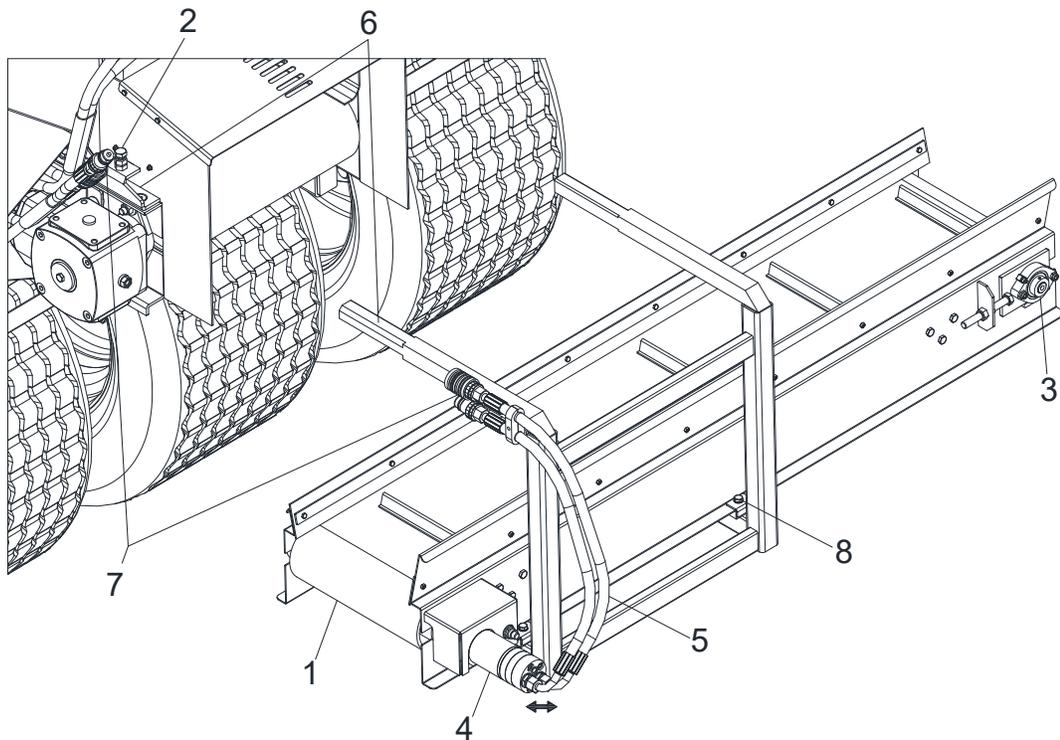
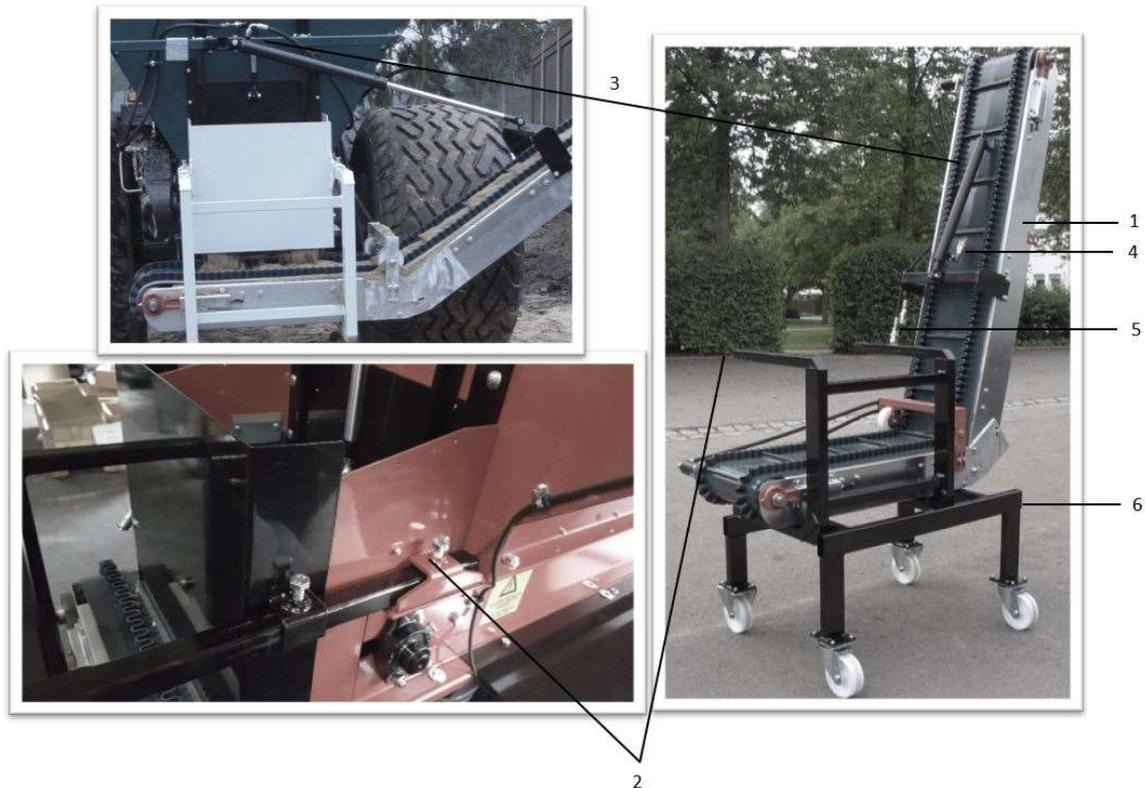

Fig. 18 Cross conveyor belt unit
Fig. 19 Lift conveyor belt
The optional cross conveyor belt (Fig. 18/1) is used for lateral spreading of the spreading material. The cross conveyor belt is inserted into the same mounting (Fig. 18/2) as the disc spreading unit and bolted to the support (Fig. 18/6). Either the disc spreading unit or the cross conveyor belt unit can be mounted on the disc spreader.
2. Disconnect the hydraulic plug connections (Fig. 18/7).
3. Loosen the screws of the mounting (Fig. 18/2) on both sides and pull off the disc spreading unit.
4. Push the support (Fig. 18/6) of the cross conveyor belt unit (Fig. 18/1) into the
5. receptacle (Fig. 18/6) and secure with the screws (Fig. 18/2) on both sides.
6. Connect the hydraulic connections of the cross conveyor belt (Fig. 18/5) with the counter connections (Fig. 18/7).
The lift conveyor belt (Fig. 17Fig. 19/1) is used for lateral spreading of the spreading material and for transferring the spreading material to another vehicle. The lift conveyor belt is inserted into the same holder (Fig. 18/2) as the disk spreader unit and bolted to the carrier (Fig. 18/2). Either the disk spreader unit or the lift conveyor belt can be mounted on the disc spreader.
3. Loosen the screws of the mounting (Fig. 18/2) on both sides and remove the disk spreader unit.
4. Slide the carriers (Fig. 19/2) of the lift conveyor belt (Fig. 19/1) into the holder (Fig. 19/2) and secure with the bolts (Fig. 19/2) on both sides.
5. Connect the hydraulic connections of the lift conveyor belt (Fig. 19/5) to the mating connections (Fig. 18/7).
6. Position the cylinder bracket (Fig. 19/3) and screw it in place.
7. Route the hydraulic lines, which are included in the delivery, with the hydraulic plug of the cylinder (Fig. 19/4) to the side of the disc spreader and connect to the towing vehicle. This hydraulic line is used to raise and lower the lift conveyor belt.
9. The lift conveyor belt can be stored using the parking chasis (Fig. 19/6).